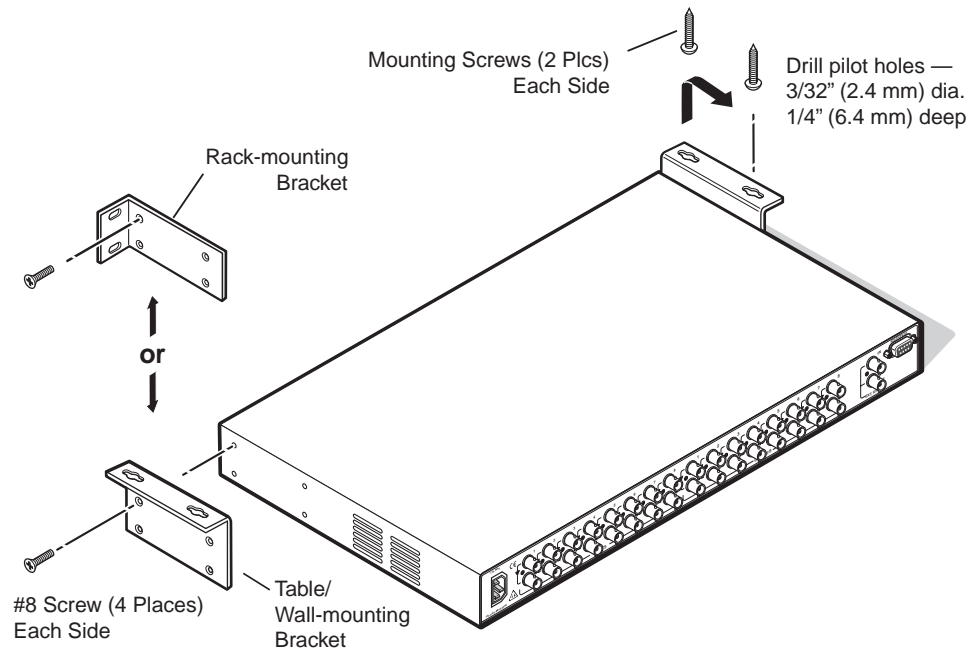

Figure 2-1 — Mounting the Digital XPoint Switcher
1. Attach the table/wall mounting brackets to the switcher with the eight provided #8 machine screws (figure 2-1).
The following Underwriters Laboratories (UL) requirements pertain to the installation of the matrix switcher into a rack (figure 2-1).
1. Attach the rack mounting brackets to the switcher with the eight provided #8 machine screws (figure 2-1).